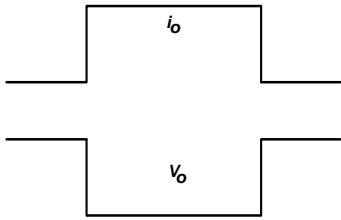
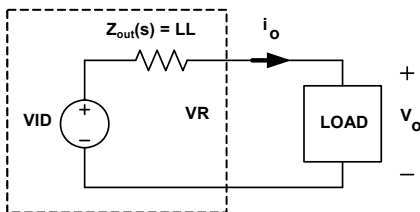

FIGURE 23. DESIRED LOAD TRANSIENT RESPONSE WAVEFORMS
FIGURE 29. VOLTAGE REGULATOR EQUIVALENT CIRCUIT
Assuming the compensator design is correct, Figure 23 shows the expected load transient response waveforms if  $C_n$  is correctly selected. When the load current  $I_{core}$  has a square change, the output voltage  $V_{core}$  also has a square response.
Figure 23 shows the desired load transient response waveforms. Figure 29 shows the equivalent circuit of a voltage regulator (VR) with the droop function. A VR is equivalent to a voltage source (= VID) and output impedance  $Z_{out}(s)$ . If  $Z_{out}(s)$  is equal to the load-line slope LL, i.e., a constant output impedance, then in the entire frequency range,  $V_o$  will have a square response when  $I_o$  has a square change.